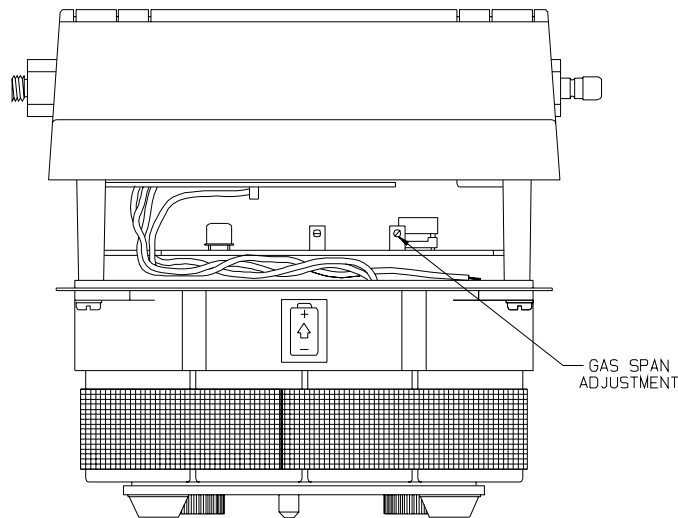

Figure 4-1. Span Adjustment Location
2. Remove the bottom case section and position the instrument on rubber bumpers so the meter can be seen (FIGURE 4-1).
- If it does not read 8, turn the GAS span adjustment to obtain 8 on the meter (FIGURE 4-1).